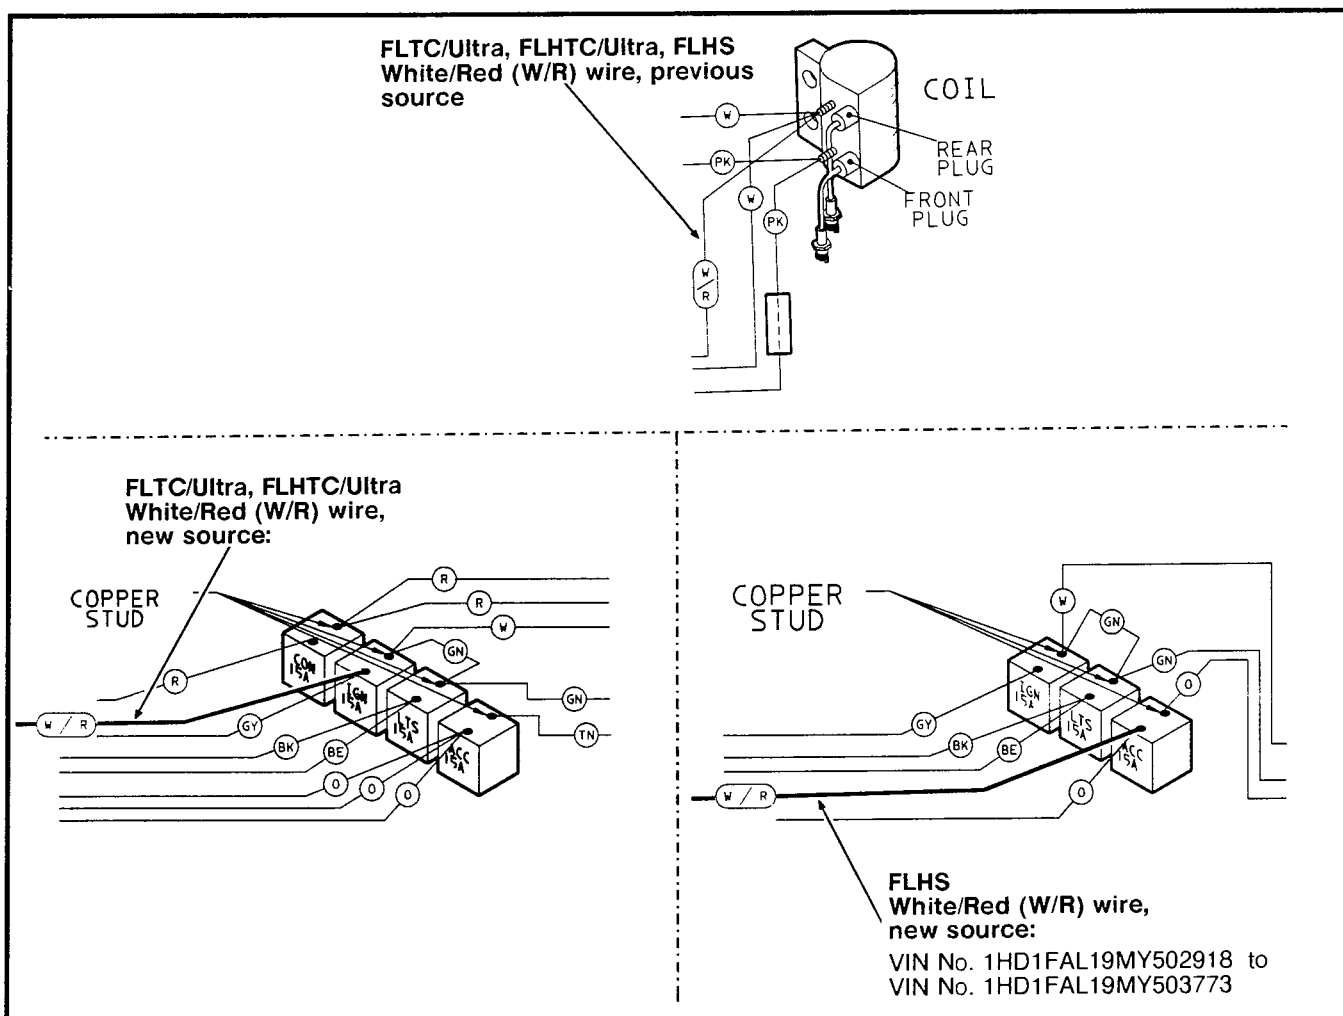

Figure 5. FLT Models Wiring Schematic Detail
See Figure 5. FLTC/Ultra, FLHTC/Ultra – The stoplamp hot wire, White/Red (W/R) source has been moved from the ignition coil to the ignition (IGN) circuit breaker. It is connected to the silver stud with the gray (GY) wire. This change begins with VIN No. 1HD1D*L19MY502918 and continues to the present.
See Figure 5. FLHS – The stoplamp hot wire, White/Red (W/R) source was moved from the ignition coil to the accessory (ACC) circuit breaker. It was connected to the silver stud with the orange (O) wire. This change begins with VIN No. 1HD1FAL19MY502918 and ends with VIN No. 1HD1FAL19MY503773.